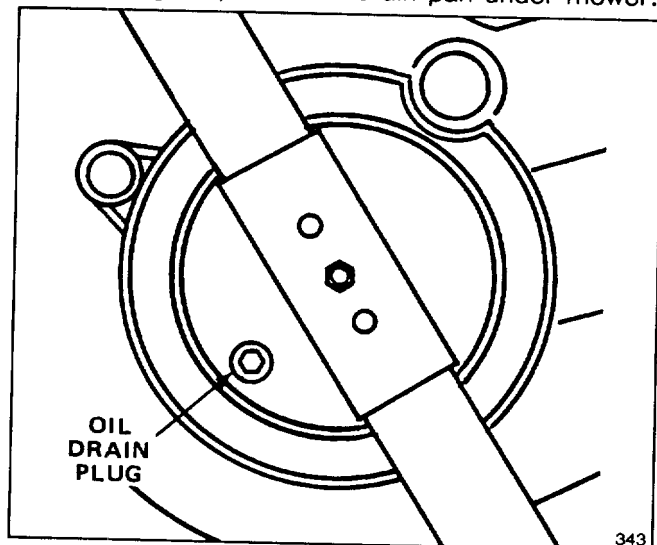

Figure 14
3. Tip mower on its right side. Remove drain plug from underside of mower using a 5/16" allen wrench (Fig. 14). Place a drain pan under mower.